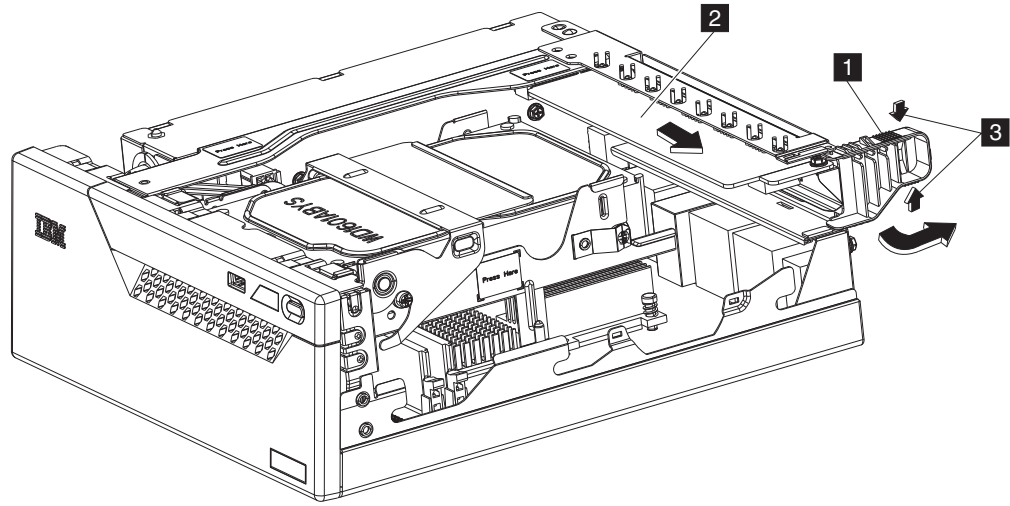

Figure 15. Removing the I/O connector card
2. Squeeze the blue plastic connector-card retainer at the top and bottom (where the two small arrows **3** are located in Figure 15) to unlatch. Rotate the I/O connector-card retainer outward to the open position **1** as shown.